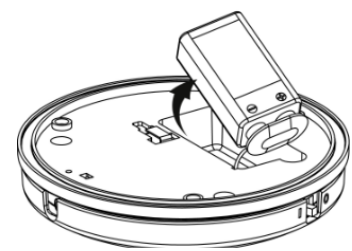

Fig 5-3
3. Remove the battery from one end (Fig.5-3).